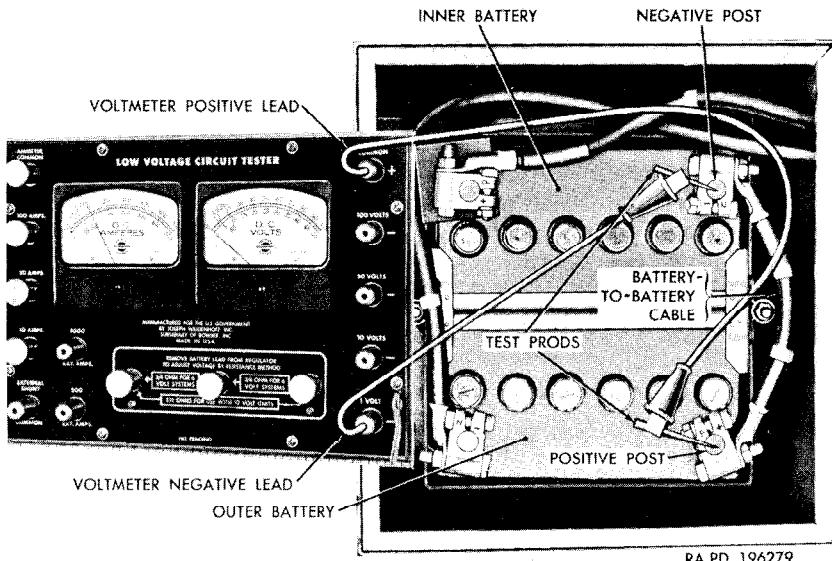

Figure 46. Testing battery-to-battery cable resistance.
- (5) *Compare voltage readings of the two batteries*. The reading for each battery should be not less than 11 volts and variation between the two batteries should not exceed 1 volt. If voltage reading of one battery is low, replace the low battery (par. 168) and repeat the check described in (1) and (2) above.
f. Check Battery-to-Battery Cable Resistance (fig. 46). Testing the resistance in the battery to battery cable is to isolate excessive resistance between the batteries. When making this check, the test leads